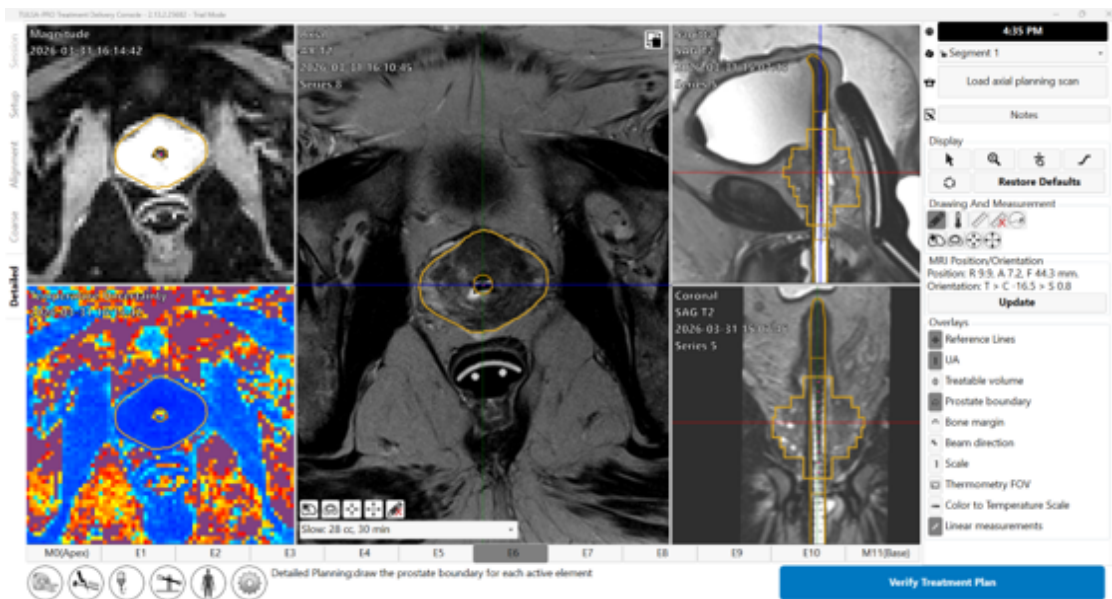

Figure 41: Detailed Planning after drawing boundaries
1. Draw or edit the boundary to outline the tissue to be ablated on each slice based on the corresponding AX T2 and THERM magnitude images (*Figure 41*). Tools to customize the boundary are described in the following *mpMRI Vision*, *Treatment Arc*, *Volume Reduction*, and *Contouring Assistant*. You can select individual slices by clicking on the numbered tab at the bottom of the screen or by pressing the left and right arrow keys on the keyboard. Use the sagittal and coronal views of the SAG T2 images to verify the intended ablation zone in three dimensions.